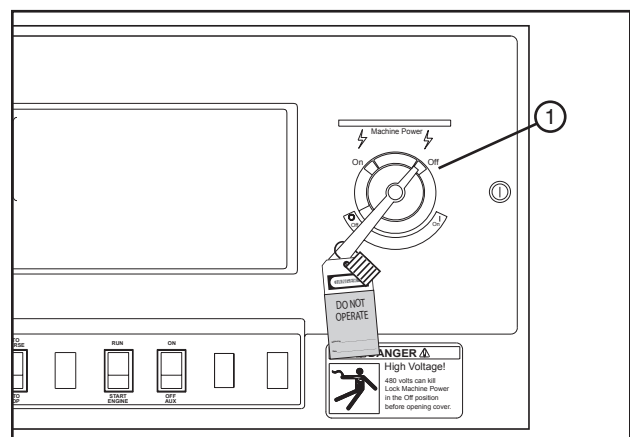

Figure 59-3 1. Main Power Disconnect
4. SHUT OFF and LOCK the control panel main power disconnect. FILL OUT the blue (OSHA safety color code) tag and attach to the disconnect after locking. See figure 59-3.